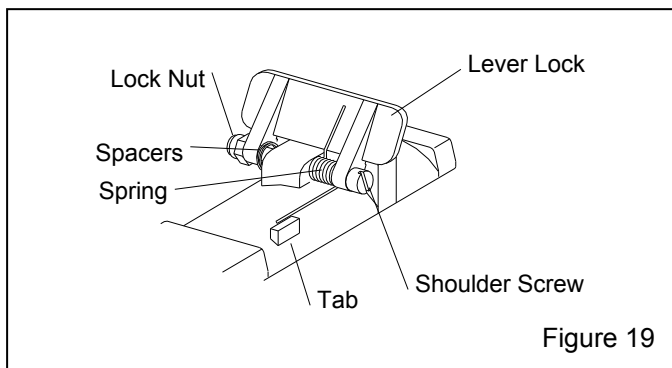

Figure 19
6.9.2 Lever lock replacement, Figure 19
6.9.2.1 Remove the lock nut from the shoulder screw. Before removing the screw, note the positions of the spacers and spring, as shown in Figure 19. The bent end of the spring is toward the inside, forcing the lever lock up. The straight end is toward the outside, facing down and against the tab.